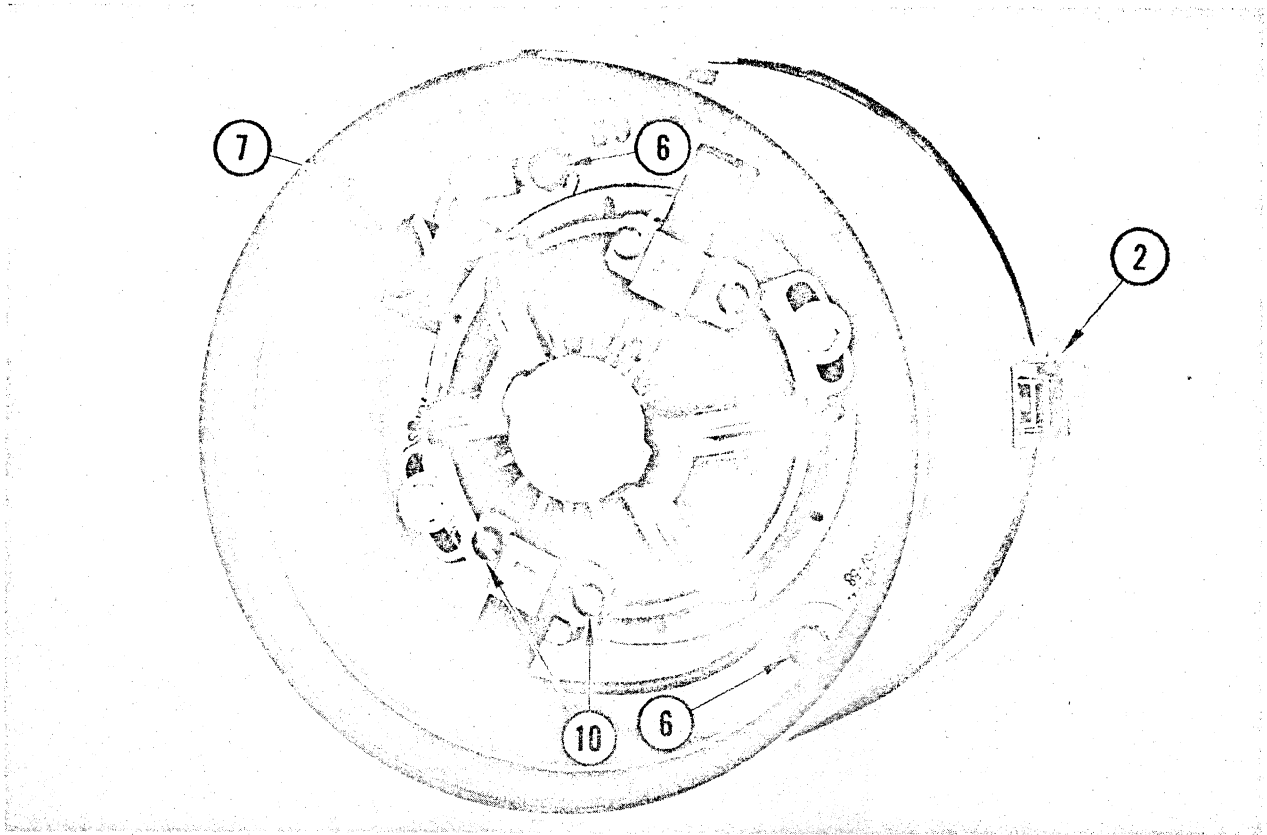

Figure 5-3.
Step 1: Remove the brush retaining screws. (See Figure 5-3.)